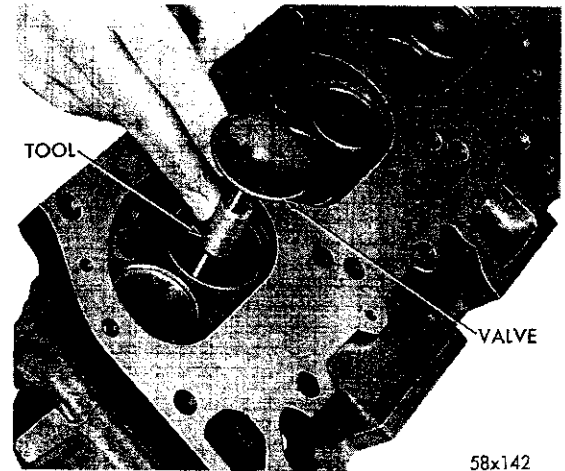

Fig. 10—Measuring Valve Stem Guide Clearance Using Tool C-3026
(3) Remove the carbon and varnish deposits from the inside of the valve guides with cleaner, Tool C-756.
(4) Measure the valve stem guide clearance as follows: Install sleeve Tool C-3026 over the valve stem, as shown in Figure 10, and install valve.